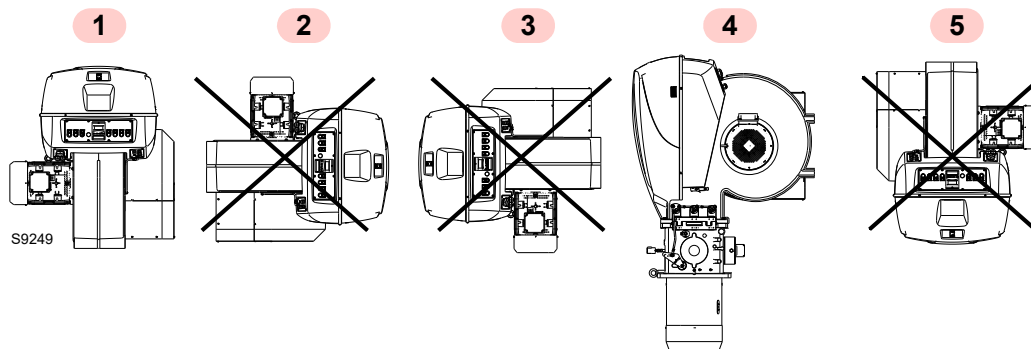

Fig. 11
- The burner is designed to work only in positions 1 and 4 (Fig. 11).